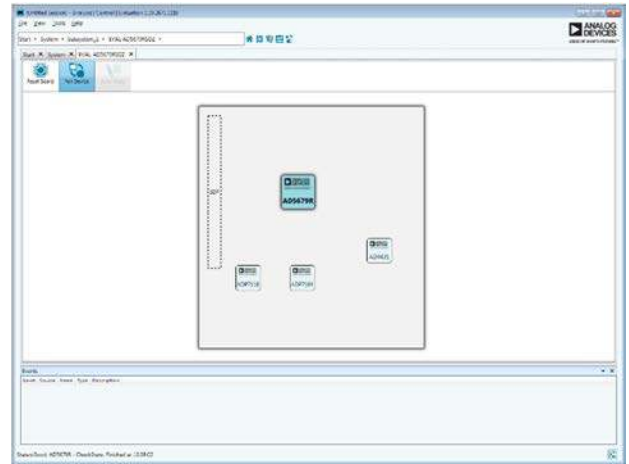

Figure 2. Board View of the EVAL-AD5679RSDZ
3. Double-click the board plug-in to open the board view seen in Figure 2.